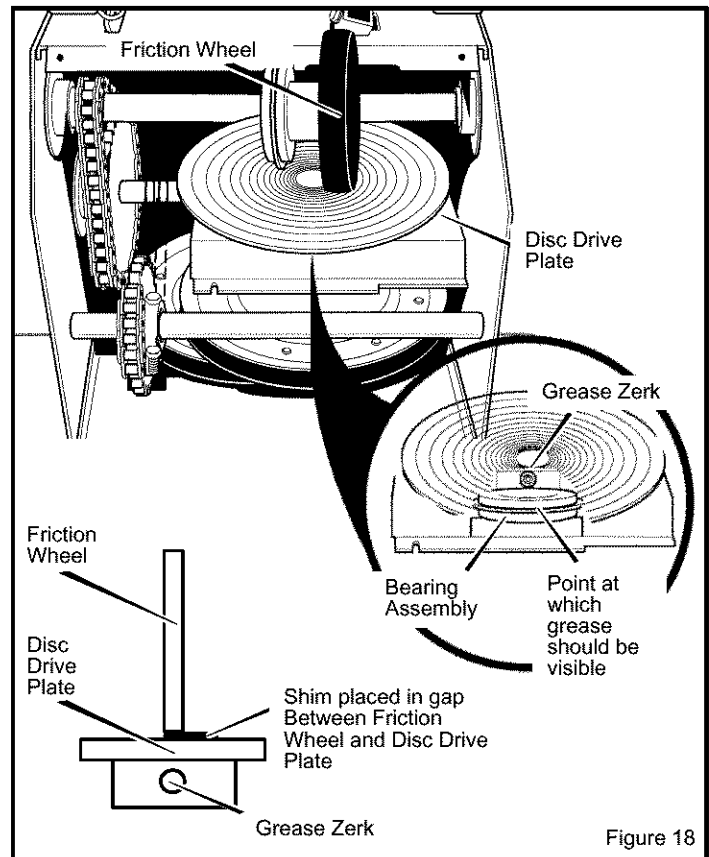

Figure 18
4. Turn disc drive plate clockwise by hand until grease zerk is clearly visible at front center (see Figure 18).
5. Place a coin or (a shim of equal thickness) between the rubber friction wheel and disc drive plate to prevent rubber friction wheel contacting the drive disc (see Figure 18).
6. To grease zerk, use a hand grease gun, lubricate with a Hi Temp EP Moly grease. See inset of Figure 18. **DO NOT** over fill or allow grease to come in contact with the disc drive plate or friction wheel or damage will result. Fill zerk only until grease becomes visible below bearing assembly located under grease zerk.